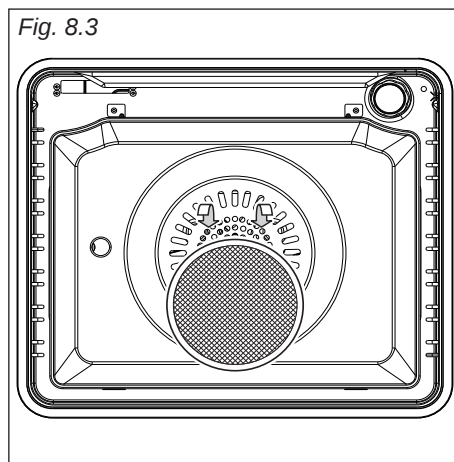

Fig. 8.3
- A special filter is provided at the rear of the oven to capture grease particles produced especially when roasting meat. The filter must be hooked to the rear wall of the oven as shown in figure 8.3.